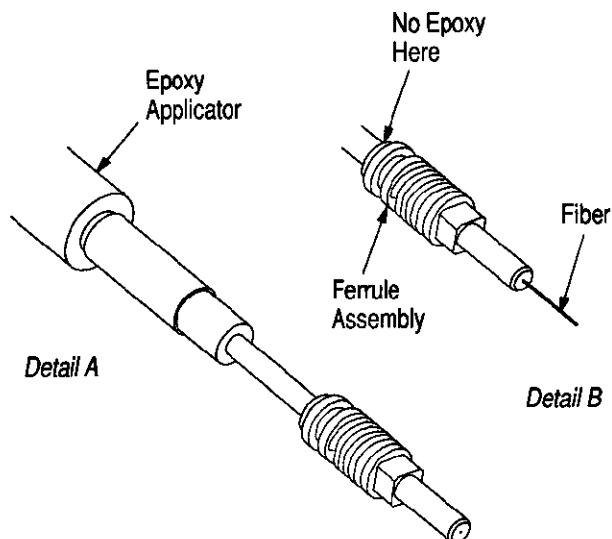

Figure 10
3. Select and prepare epoxy according to package instructions and fill the applicator from the epoxy applicator kit. Insert and bottom the epoxy applicator into the ferrule assembly. Inject epoxy into the ferrule until epoxy appears at the ferrule tip. Continue to inject epoxy while withdrawing the applicator by 3 mm [.125 in.]. Remove applicator from ferrule assembly without applying additional epoxy. See Figure 10, Detail A.
4. Install a ferrule over one of the fibers using a semi-circular rotating motion. Do not tilt or force the fiber into the ferrule. Do not allow epoxy on the fiber buffer entering the back of the ferrule assembly. See Figure 10, Detail B.
- Added new artwork in Figure 10.